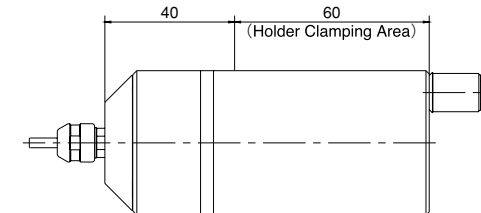

Fig.5
- ① When mounting the spindle avoid the area where bearings are located. If the spindle is mounted inappropriately, this will cause and damage to the spindle. (Refer to the clamping area drawing in Fig.5)